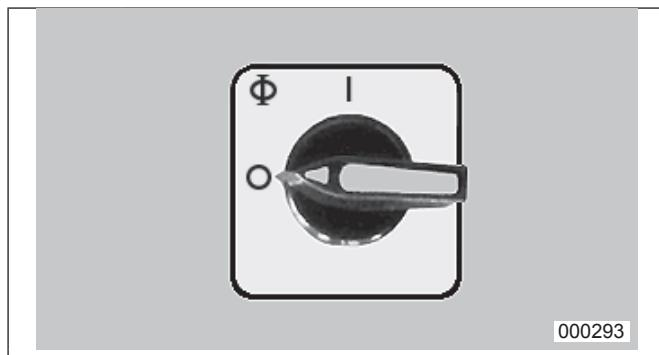
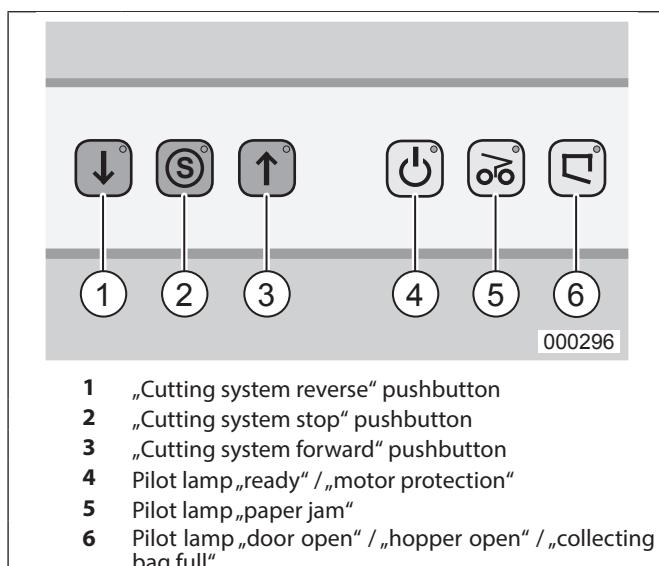

fig.2 Operating element (Emergency-stop)
fig.3 Operating elements foil
1. Move the main switch (fig. 2) to position „1“.
2. Press the „forward“ button (fig. 3/3). The cutting system starts running.
Continuously lights when the mains switch (fig.2) is operated.
Flashes when the motor is overloaded. The machine cannot be started during the cooling down phase of the motor. Additional the pilot lamp of the control display (fig.3/6) lights up.
To start, switch on the unit by operating the mains switch (fig. 2). The pilot lamp marked „ready for operation“ (fig. 3/4), as well as the red stop-button „S“ (fig. 3/2) will light to indicate that the machine is ready for operation.
2. Press the pushbutton switch „forward“ (fig. 3/3).
3. To switch the machine off press the red stop-button (fig. 3/2).